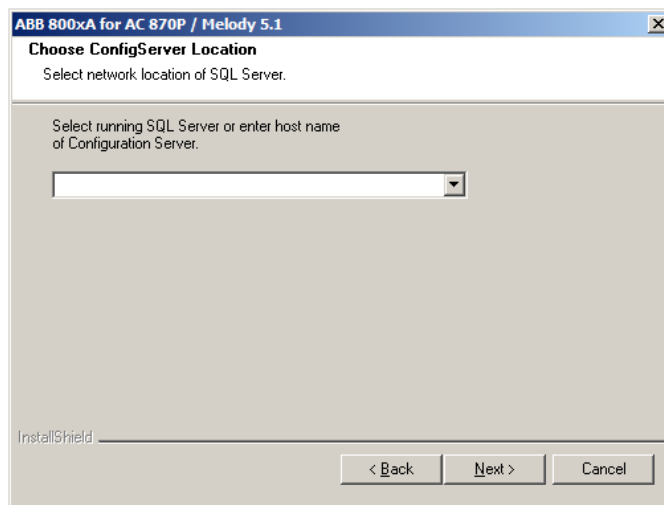

Figure 40. Selecting Configuration Server as SQL Server Location
3. Choose the **ConfigServer** location as shown in Figure 40, and click **Next**.